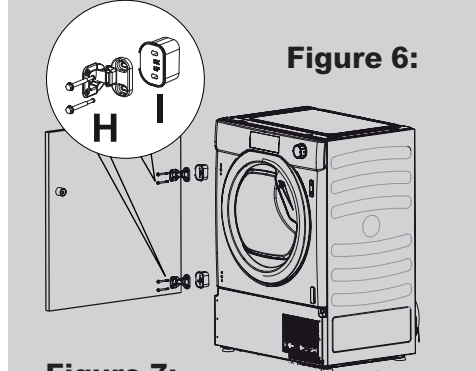

Figure 6:
- Mount the furniture door to the front of the dryer using the hinges. Place the spacers under the hinges (I) (**figure 6**) and then fix in position with screw (H).